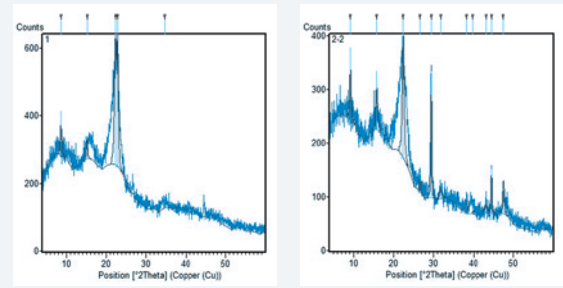

Figure 2: XRD paper sample with and without eggshell additive
Figure 2 is the X-ray diffraction pattern of the paper sheets in presence and absence of eggshell filler. The sample without eggshell, shows the characteristic peaks of cellulose at 2θ=15 and 23° which are indexed as (110) and (200). After addition of eggshell, the XRD clearly demonstrate strong reflection peak at 2θ=29.5° corresponding to the (104) plane which demonstrates the presence of calcium carbonate in the paper sheets.